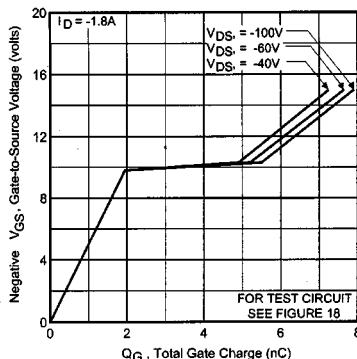

Fig. 11 — Typical Gate Charge Vs. Gate-to-Source Voltage
① Repetitive rating; pulse width limited by max. junction temperature (See Figure 11)
③ $I_{SP} \leq 1.8A$, $di/dt \leq 70A/\mu s$, $V_{DD} \leq V_{(BR)DSS}$, $T_J \leq 150^\circ\text{C}$
② Not Applicable
④ Pulse width $\leq 300 \mu s$; duty cycle $\leq 2\%$.